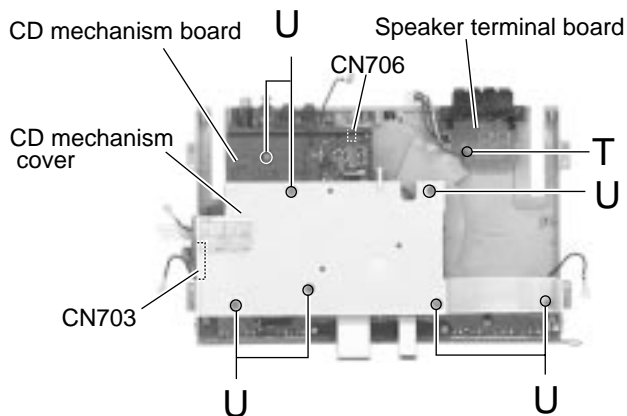

Fig.29
■ Removing the speaker terminal board (See Fig.29)
■ Removing the CD mechanism board / CD mechanism assembly (See Fig.29 to 34)